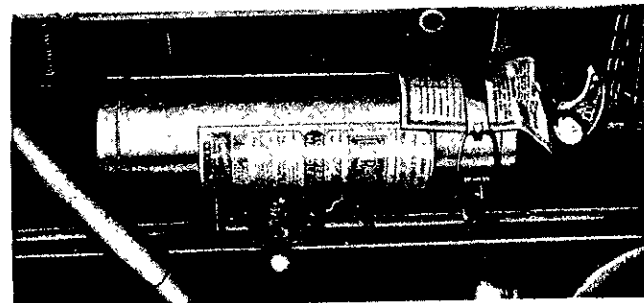

Figure 30 — Fire Extinguisher
a. FIRE EXTINGUISHER.—A carbon tetrachloride hand fire extinguisher is installed on the left side of the rear cockpit. (See figure 30.) A hinged door makes it accessible from outside also. To remove, release retaining strap buckle and pull outward. Pressing the red button the left fuselage side panel opens the access door.